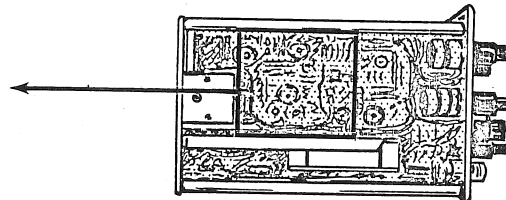

Figure 5-33
6. Adjust R-95 (see figure 5-33) so the first dot at the top of the pulse is at maximum amplitude (most positive deflection) (refer to figure 5-32).